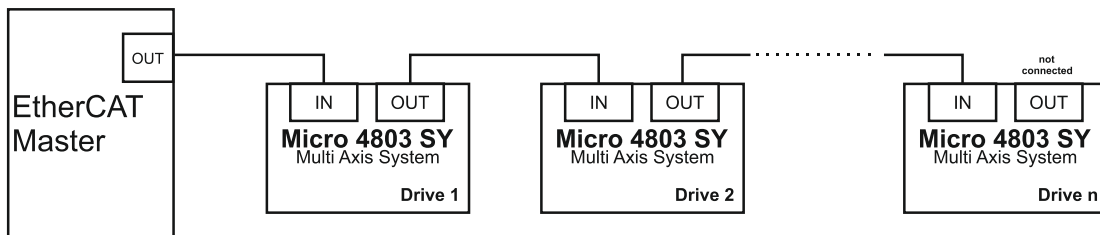

Figure 27 EtherCAT network linear topology
- Linear, when the OUT port of the last drive in the chain remains not connected. Master is connected to IN port of the first drive; OUT of the first drive is connected to IN of the following drive; OUT of the last drive remains unconnected. See **Figure 27** for a visual representation of the linear topology.